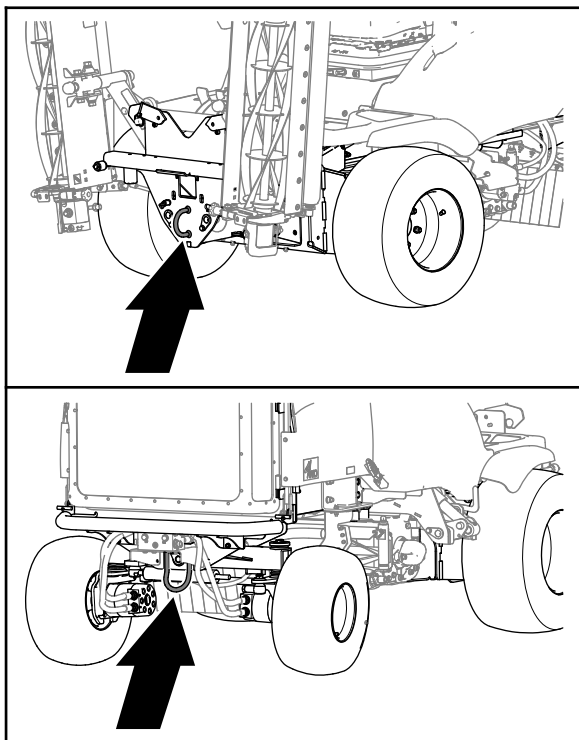

Figure 43
5. Connect a **rigid** tow bar between the front tow ring of the machine and the tow vehicle (Figure 43).